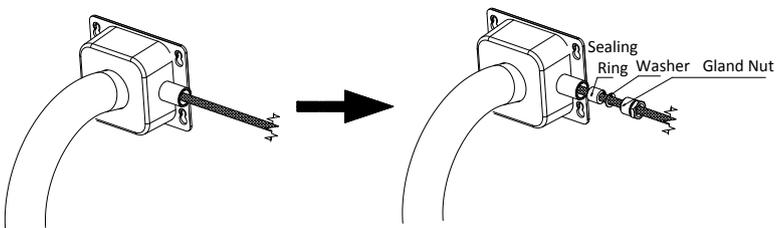

Figure 2-16 Seal the Cable Entry
2. Seal the cable entry by routing the cables through the sealing ring, washer, and gland nut in order as shown in Figure 2-16.